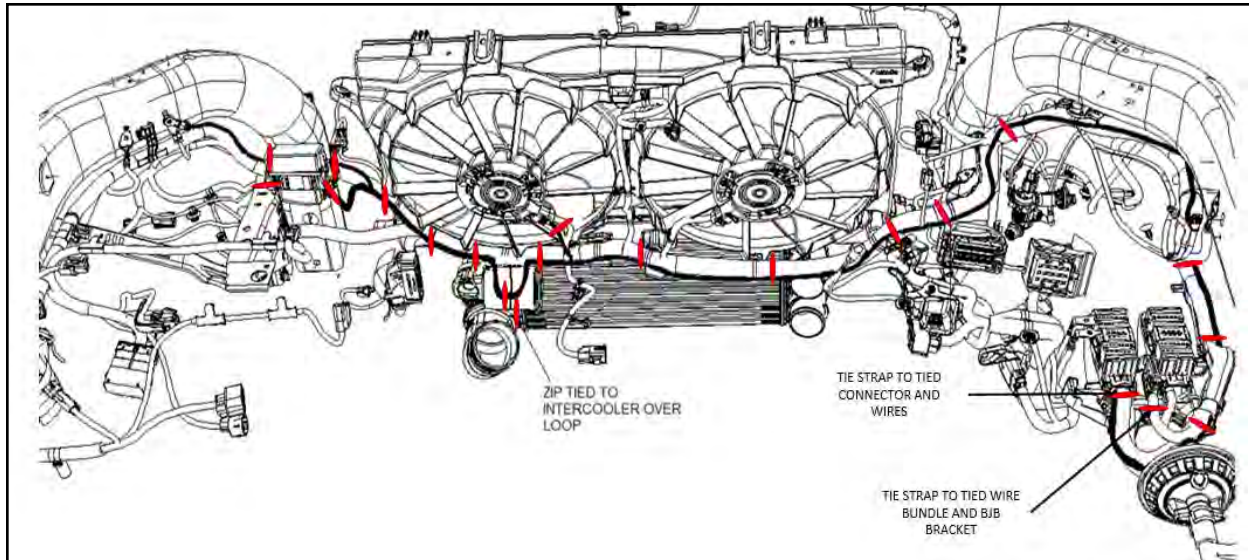
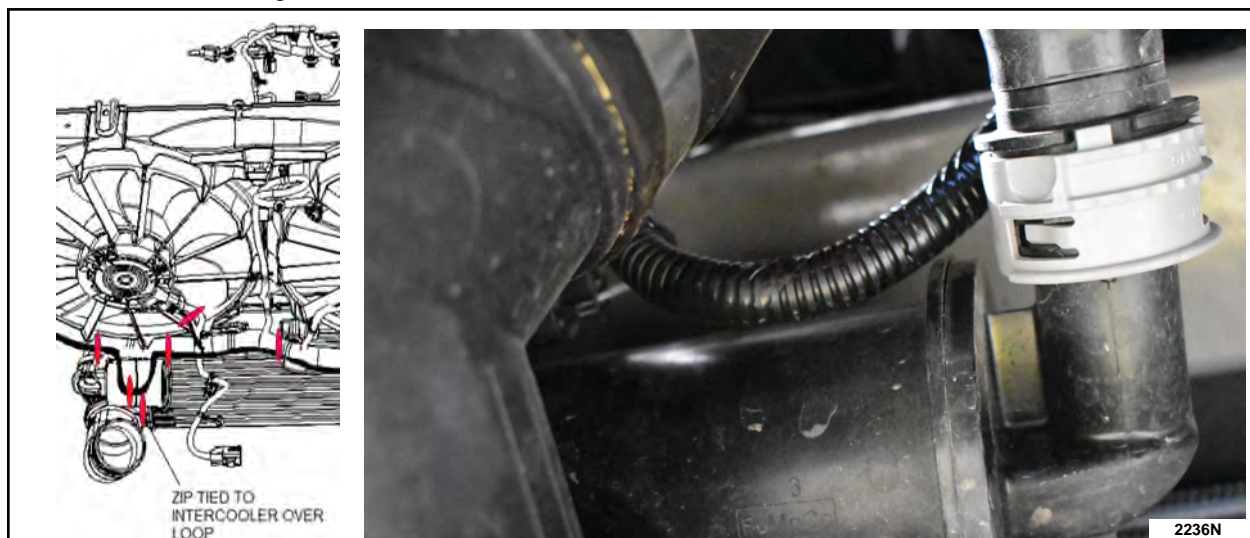

FIGURE 17
FIGURE 20
Figure 17 shows the placement of the zip ties needed to bundle the aux box harness to the 14290. Zip tie placement is critical. Please follow areas highlighted in red for placement.
24. Following the routing procedure in Figure 17, be sure to loop the aux box harness and secure it to the intercooler. See Figure 20.